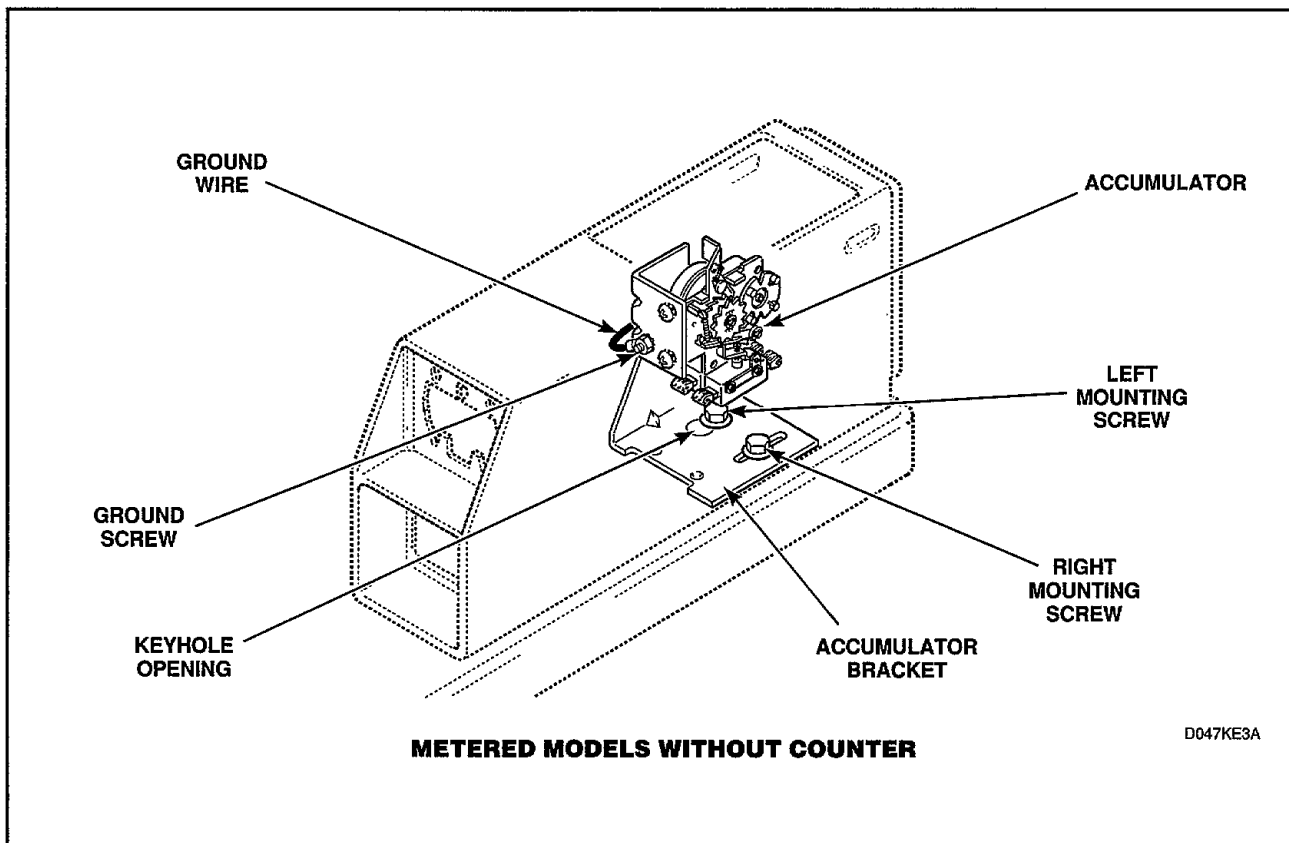

Figure 7
#### **c. Metered models: (Refer to *Figure 7*)**
### **10. ACCUMULATOR (*Figure 7*)**
- Insert key in service door lock on top of meter case and unlock door, *Figure 7*.
- Lift rear of service door approximately 45° off meter case to disengage notched tabs with internal rib at top of meter case, *Figure 7*.
- Disconnect accumulator wires at connectors, *Figure 7*.
- Remove ground screw holding green ground wire to accumulator mounting bracket, *Figure 7*.